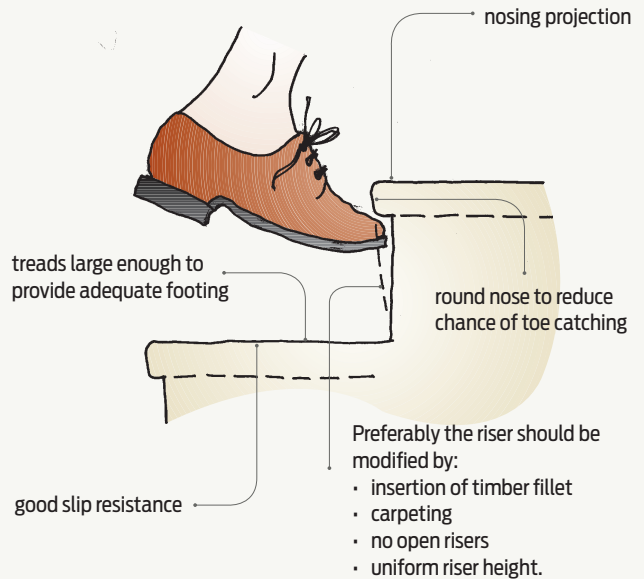

Figure 32 Principles of step design.
- either no tread nosings or minimal projections (see Figure 32)